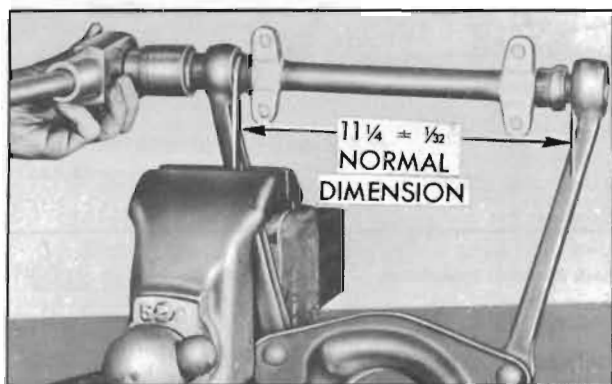

Figure 7-14—Installing First Bushing
3. Check the distance between inner ends of control arm. The normal dimension is $11\frac{1}{4}$ " plus or minus $\frac{1}{32}$ ", from inside to inside. See figure 7-14.
7. Start first bushing on shaft and into control arm at the same time. Turn bushing until head is tight against arm and tighten to a minimum of 150 ft. lbs. torque. See figure 7-14.